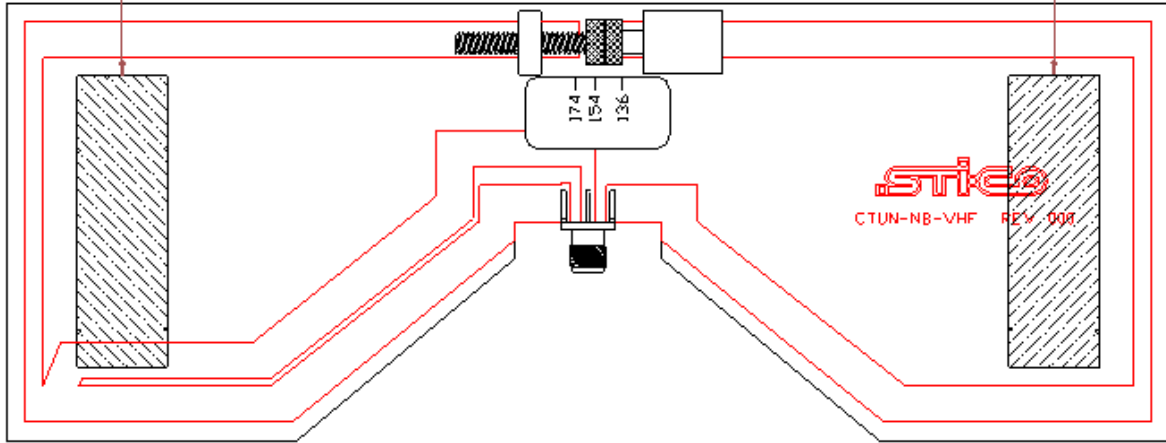
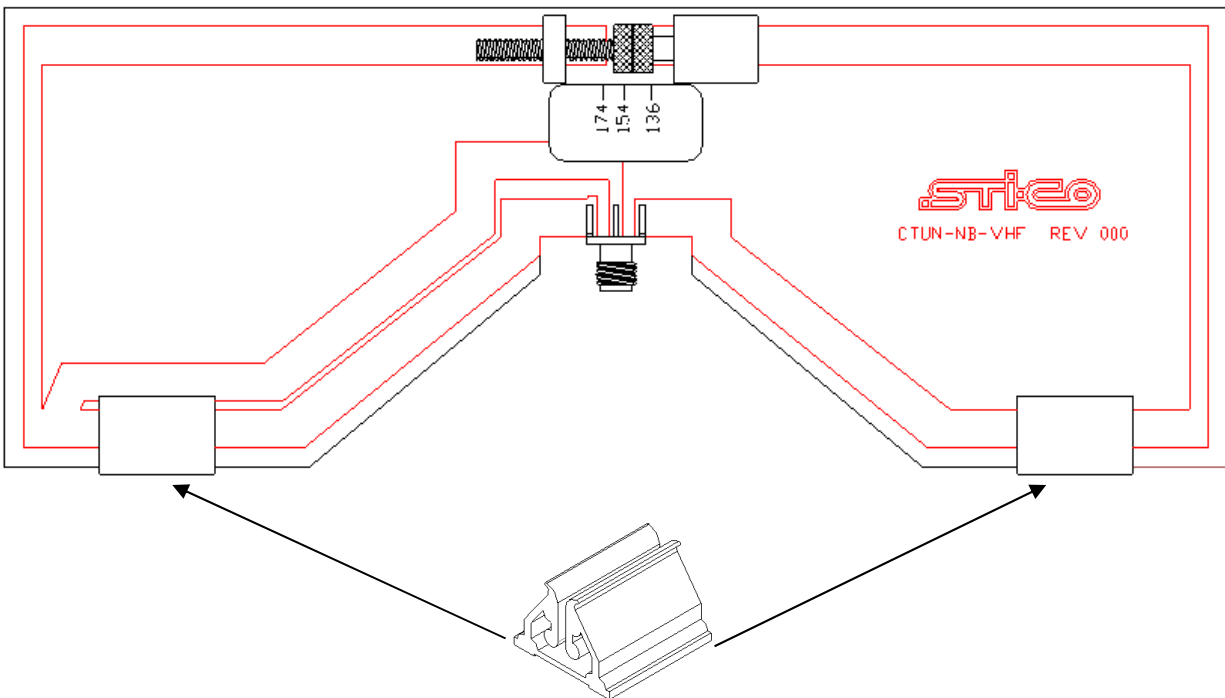

Figure 1
Figure 2
- c. Attach Velcro (Figure 1) or circuit board stand (Figure 2) to CTUN Antenna for mounting.
2. **Tuning: This unit must be tuned prior to attaching to the mobile radio.** Stand antenna vertically, as shown in Figure 2, when tuning. Tuning in the environment that the antenna will be used will improve tuning accuracy. For example, when placing antenna in a cardboard medium the frequency will shift down approximately 3 MHz. A significant increase in temperature will also shift the frequency down and increase the total reflected power.